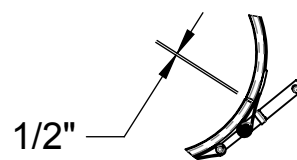

FIGURE 2
5. It is recommended that the closure gasket be inspected and/or replaced at the same time the cartridges are replaced. Before replacing the cover assembly, ensure that there is no debris on the sealing surfaces. Replace the head and cover clamp and tighten the T-bolt so that there is a gap of approximately 1/2" between the V-band segments (See FIGURE 2).